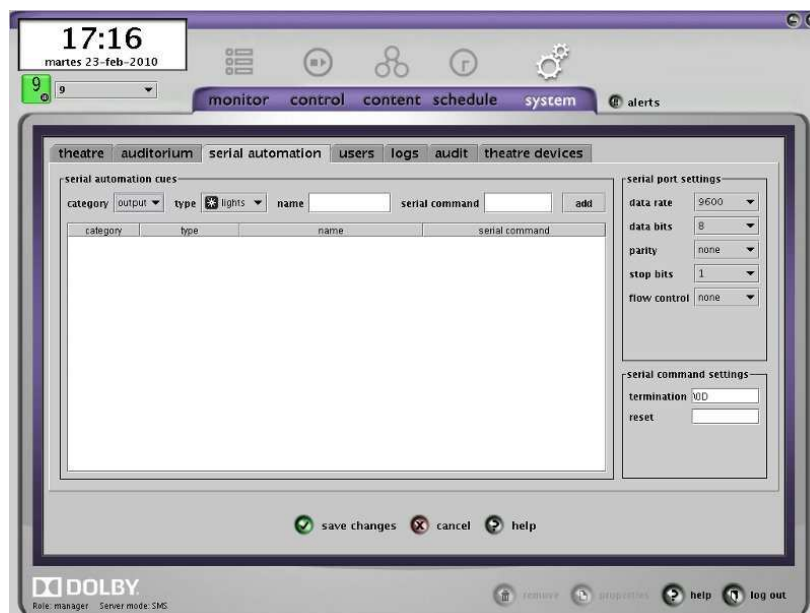

Figure 8.2B
4. In the configuration box "SERIAL PORT SETTINGS" choose the next parameters (**Figure 8.2B**):
5. In the configuration box "serial command settings" write "\0D" in the configuration box "termination" and leave the configuration box "reset" in blank as you can see in the **figure 8.2B** example.